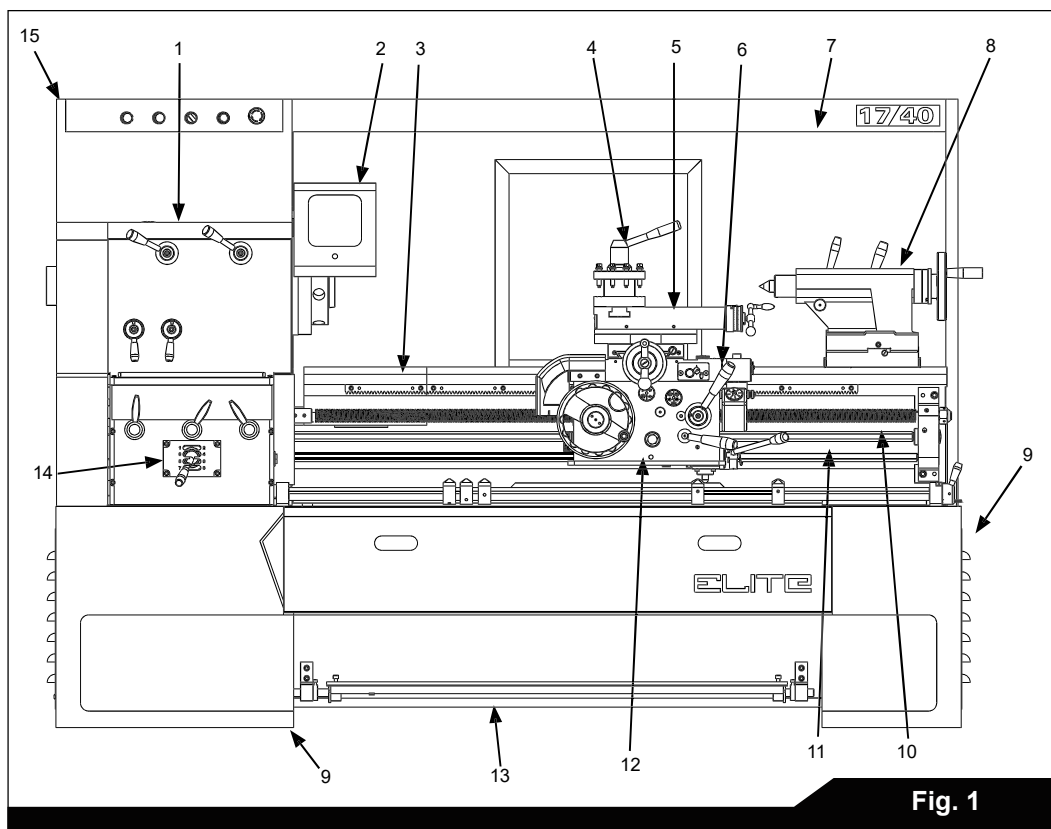

Fig. 1
8. The lathe can be placed upon the cast iron leveling pads under each foot hole, and adjusted using the adjusting bolts with hex nuts. Or, it may be secured to the floor using bolts placed head-down in the concrete, and using shims where needed to level the machine. Refer to Figure 1 for mounting hole dimensions.